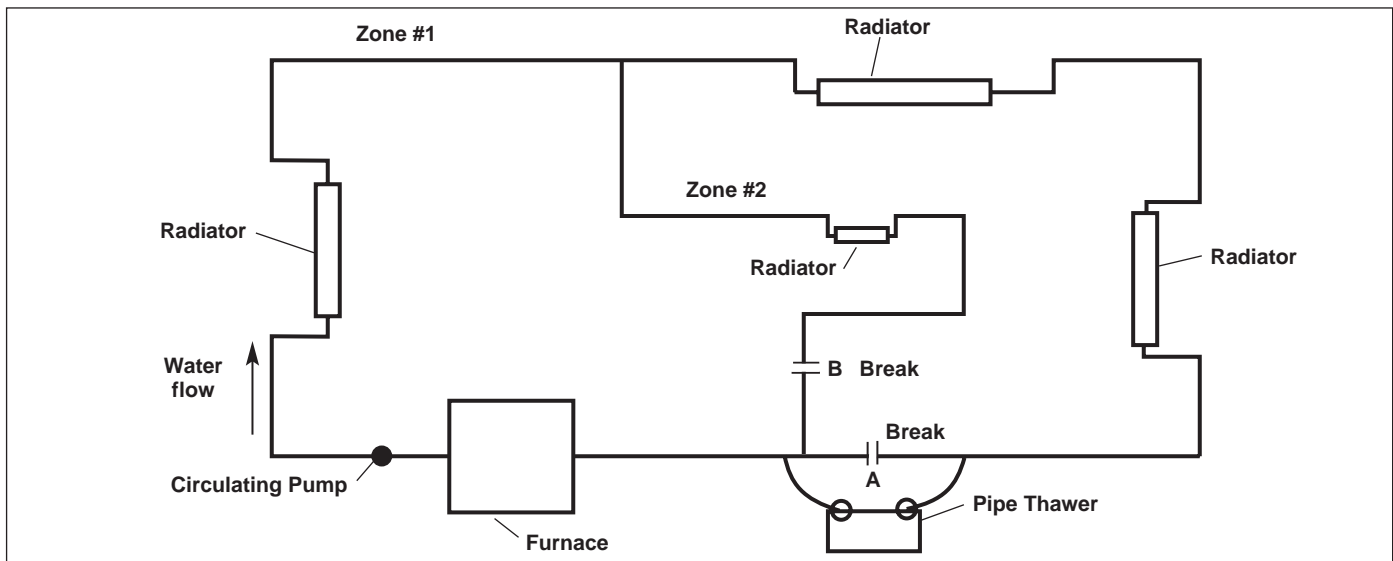

Figure 7 – Multi Zoned System
- Break the pipe at Point A and place pipe clamps as shown in *Figure 7*. This forces the current to flow through Zone #1. Use a container to collect the water.